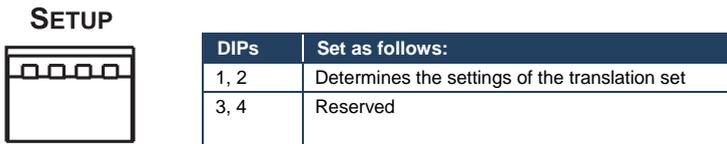

Figure 12: Translation Set DIP-Switches
Figure 12 defines the DIP-switches, which are used to select the translation drivers.
1. On the underside (see Figure 12), slide all three switches to ON (Program Mode), using a screwdriver.
7. On the underside (see Figure 12), slide all three switches to OFF (Normal Mode), using a screwdriver.